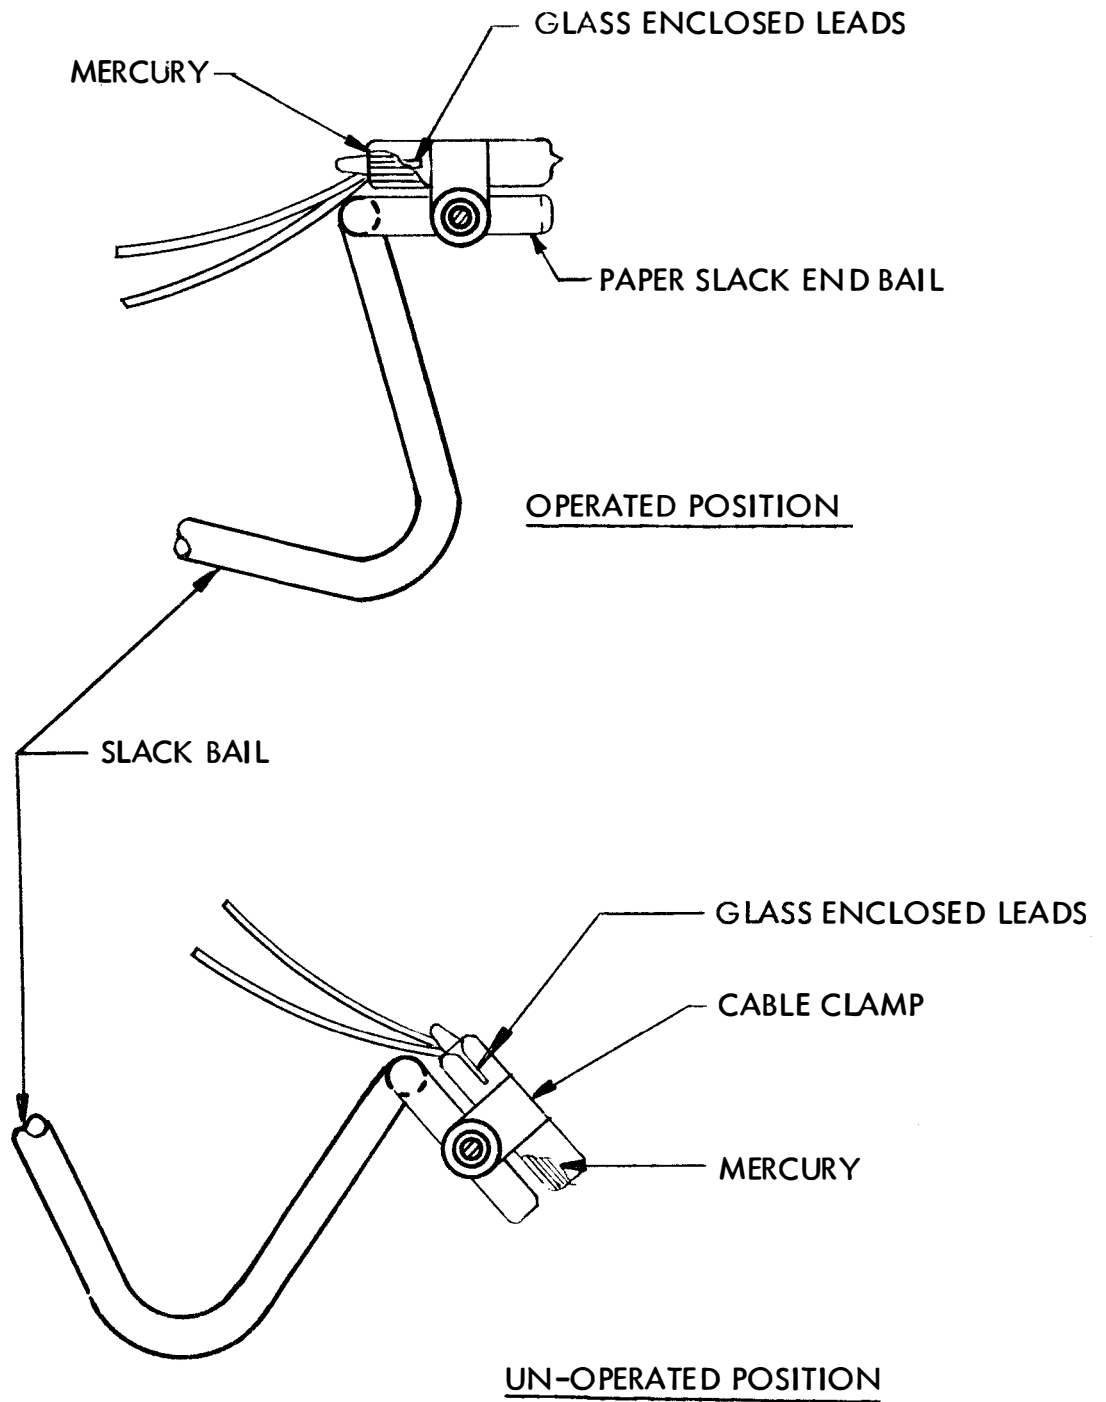

FIGURE 6. MERCURY SWITCH ADJUSTMENT
b. Mercury Switch Adjustment (See Figure 6).
(1) The glass enclosed leads of the switch must be in a horizontal plane and parallel with the paper slack mounting end bail when the slack bail mounting end is horizontal with the base plate. The mercury switch must start motor rotating when the lower edge of the paper slack bail is parallel with the base plate or 1/2" above the paper slack bail back stop.
(2) To adjust, loosen the mercury switch mounting screw and position switch.